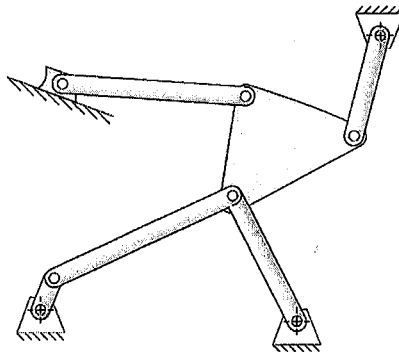

Figure Q2b
**Answer any Four (4).**
- Write down the expression for mobility (degree of freedom) of a planar mechanism considering compound hinges. Determine the mobility of the mechanism shown in Figure Q2b. [01+03]